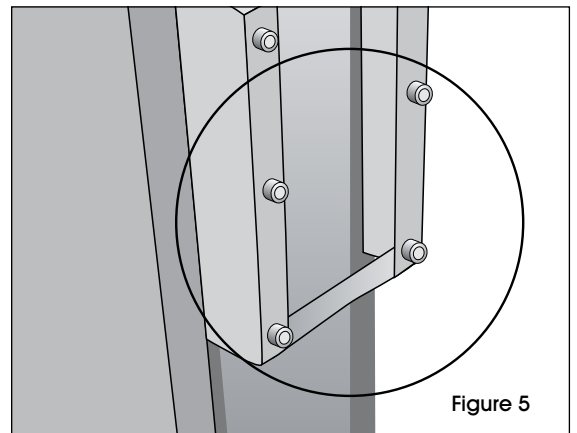

Figure 5
4. To mount the carriage, start by removing the bottom 4 bolts from the carriage mount bracket. (See Figure 5)